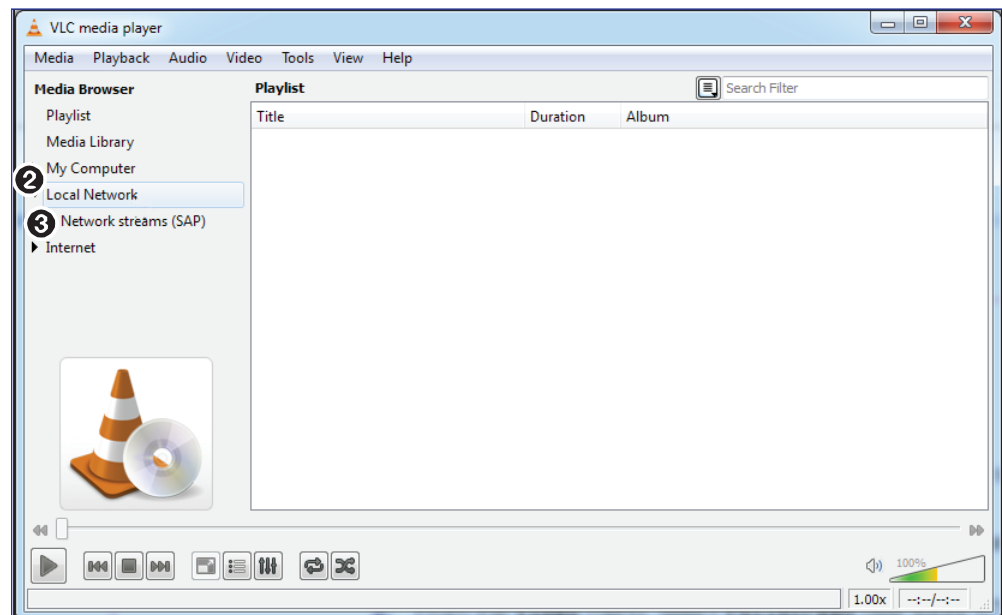

Figure 84. Select Local Network Streams
3. From the left menu column, select **Local Network** (see figure 84, ②).
4. Select **Network streams (SAP)** (③).